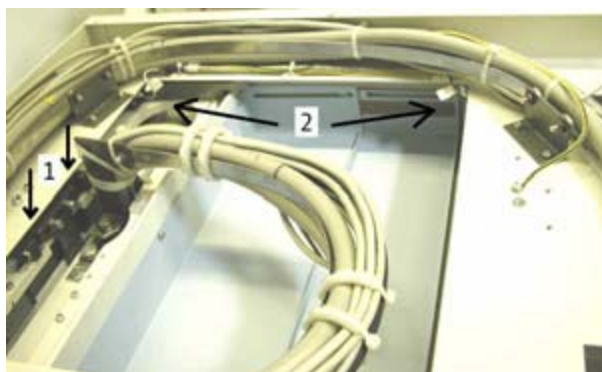

Fig. 9: Central ray
- Adjust the tube assembly with the two adjustment screws (arrows 1 (Fig. 9 / p. 19)) on the longitudinal carriage so that the center of the cross is visible on the monitor centrally between the collimator leaves in the longitudinal direction. Then attach the tube assembly.
- Adjust the tube assembly with the exposure position switch ((Fig. 9 / p. 19), arrows 2 for exposure position and park position) of the stop so that the center of the cross is visible on the monitor centrally between the collimator leaves in the transverse direction. The transverse carriage will hit the stop only lightly.